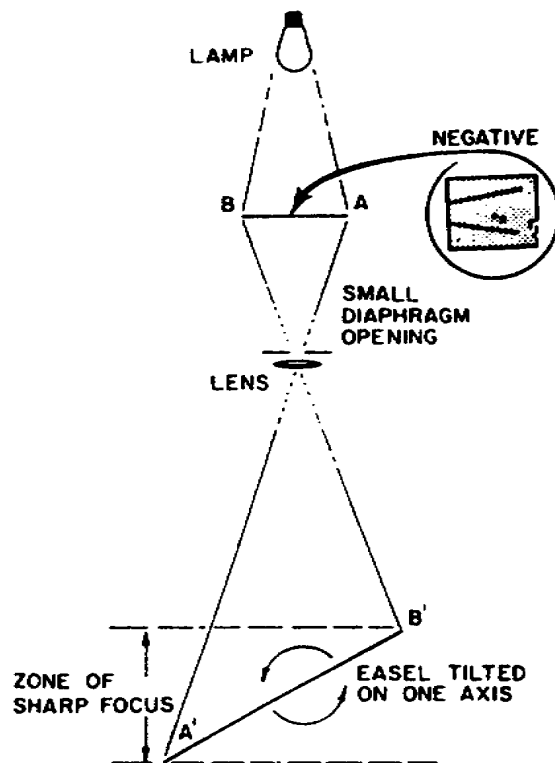
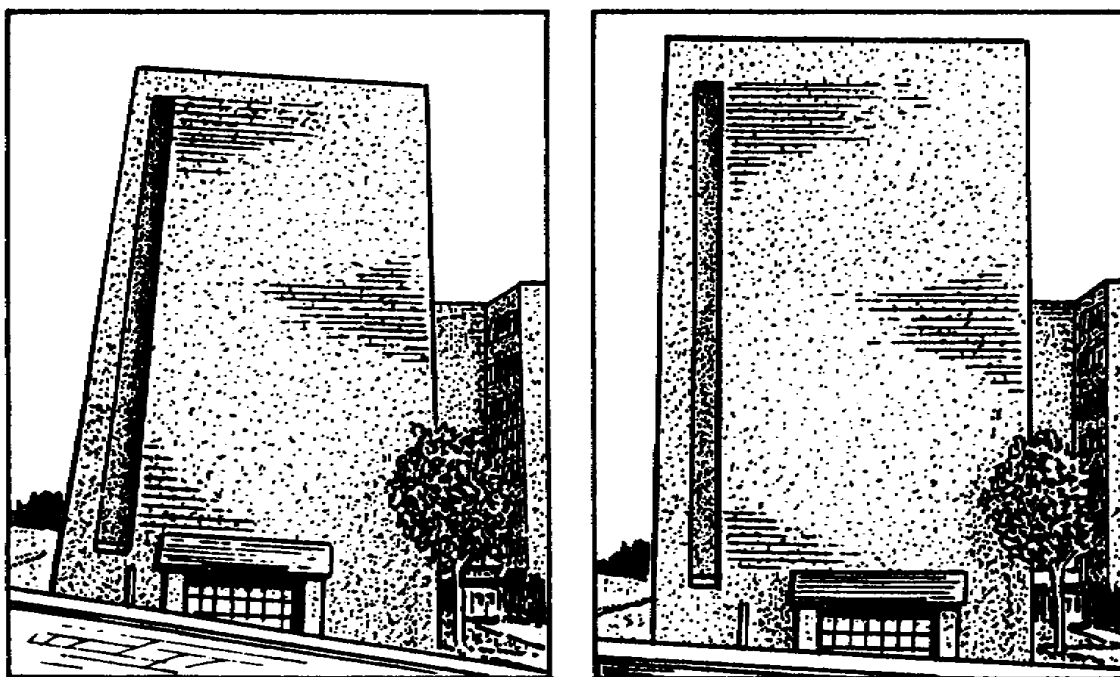

Figure 2-12. Correction by tilting the easel
Figure 2-13. How to control vertical perspective
b. This can be corrected in projection printing by tilting the easel so the top part of the building is farther from the printer lens than the bottom of the building, as shown in Figure 2-12, thus restoring the vertical lines to their correct position. Figure 2-13 illustrates a building as it would appear before correction, and the effects of tilting the easel during printing.